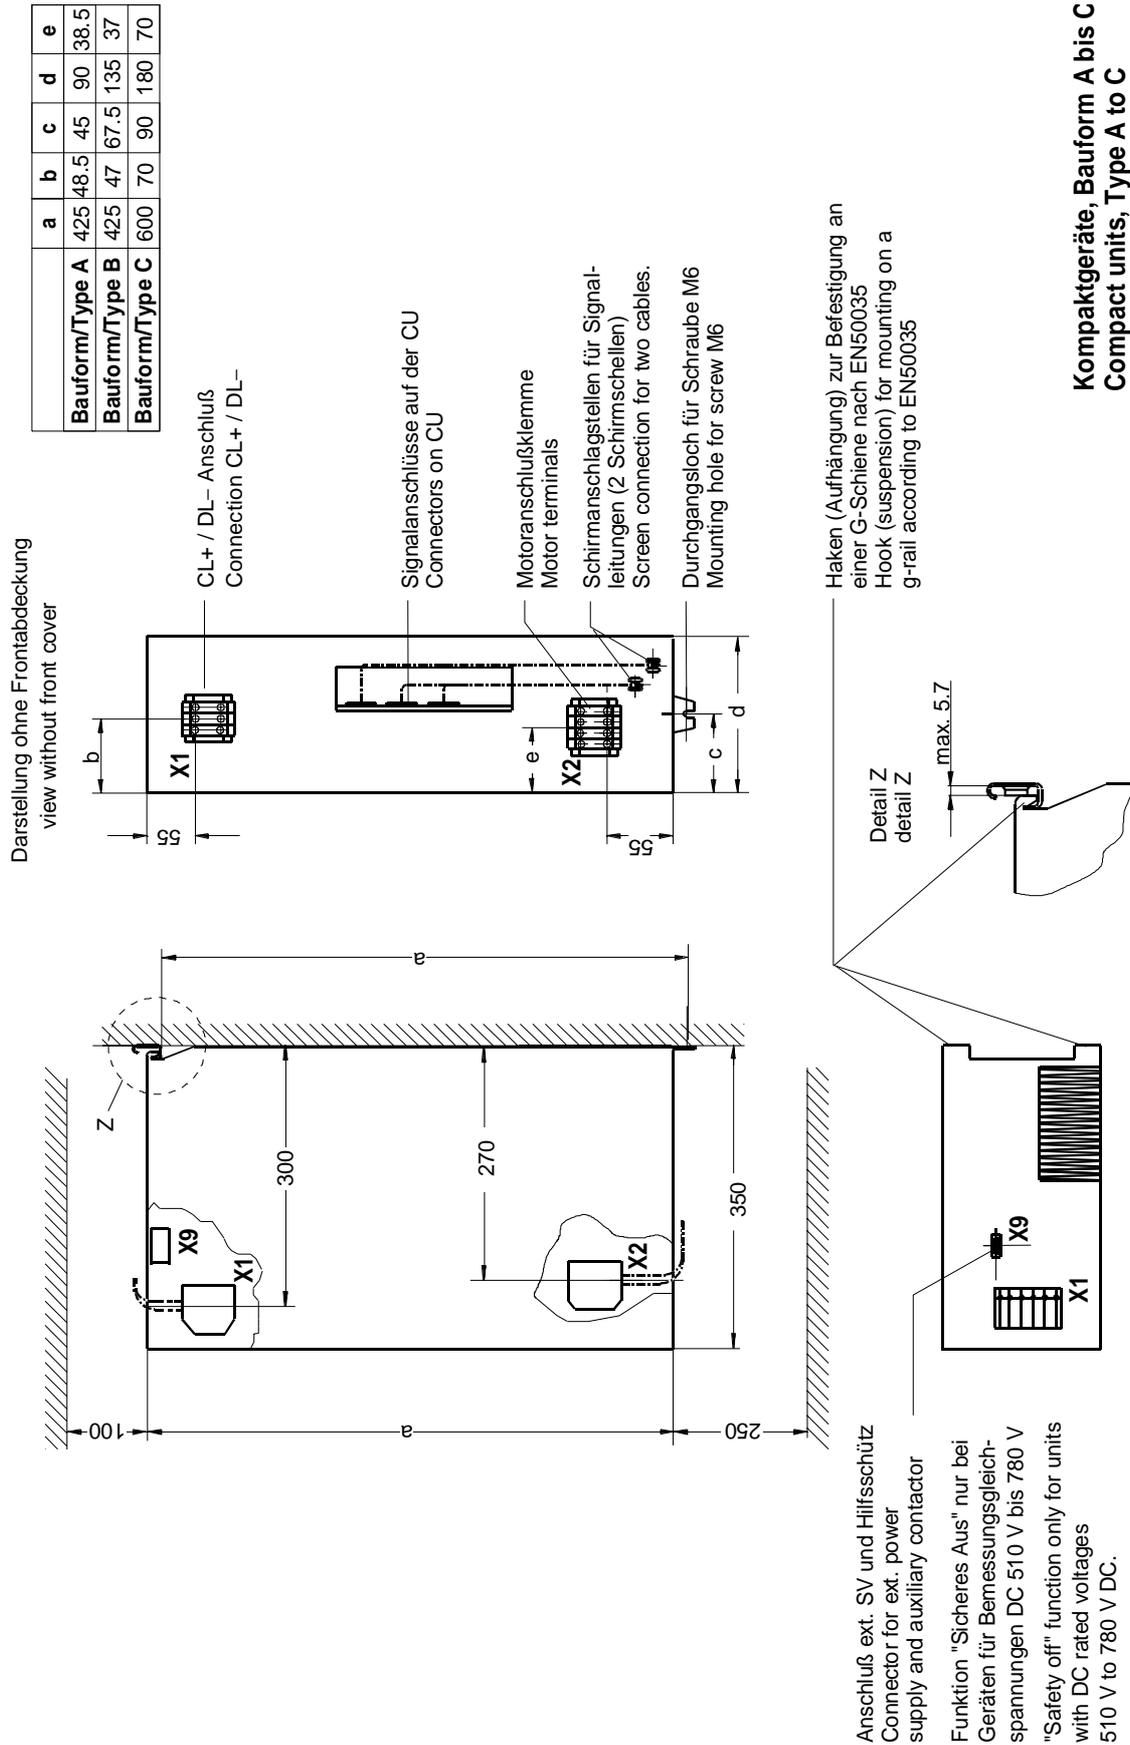

Fig. 2.2 Types A, B and C
- ◆ Dimension drawing (Fig. 2.2 for types of construction A, B and C, Fig. 2.3 for type of construction D).